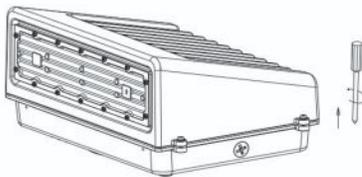

Fig. 2-1A
1. Take out the light, and loosen the screws on the cover and take apart the fixture by the screw driver. Pull off the quick connect terminal vigorously. (Fig. 2-1A&B)